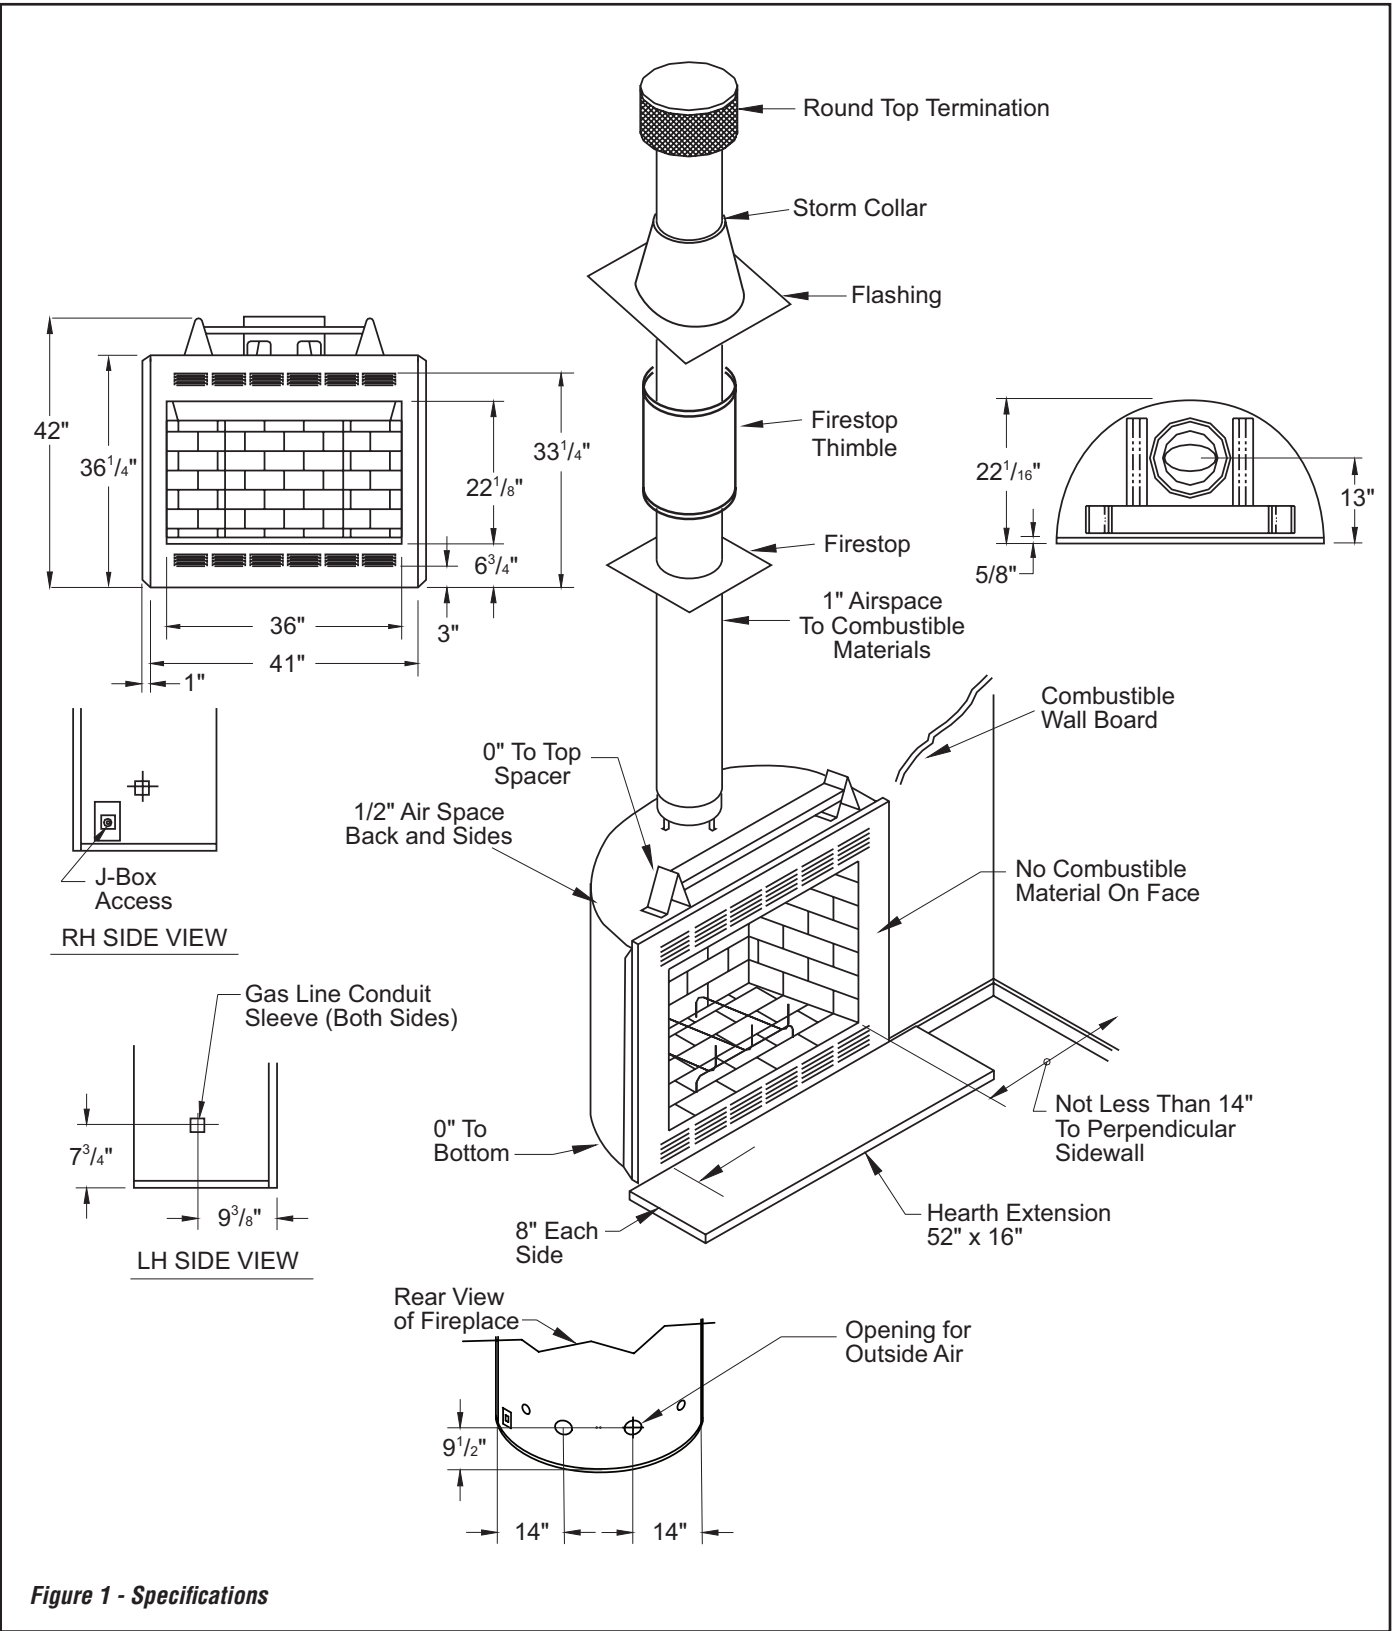

Figure 1 - Specifications
1. The location must allow for proper clearances (*see Figures 1 and 2, page 4*).